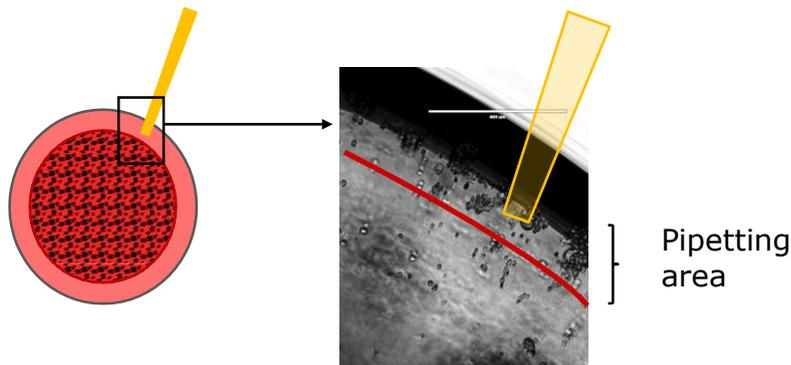

Figure 3: step3 - changing medium with BIOMIMESYS®
- Remove a part of the medium by keeping the tip on the side of the well (see figure 3). Do not worry if you touch the hydro scaffold, it is robust enough to not break easily.